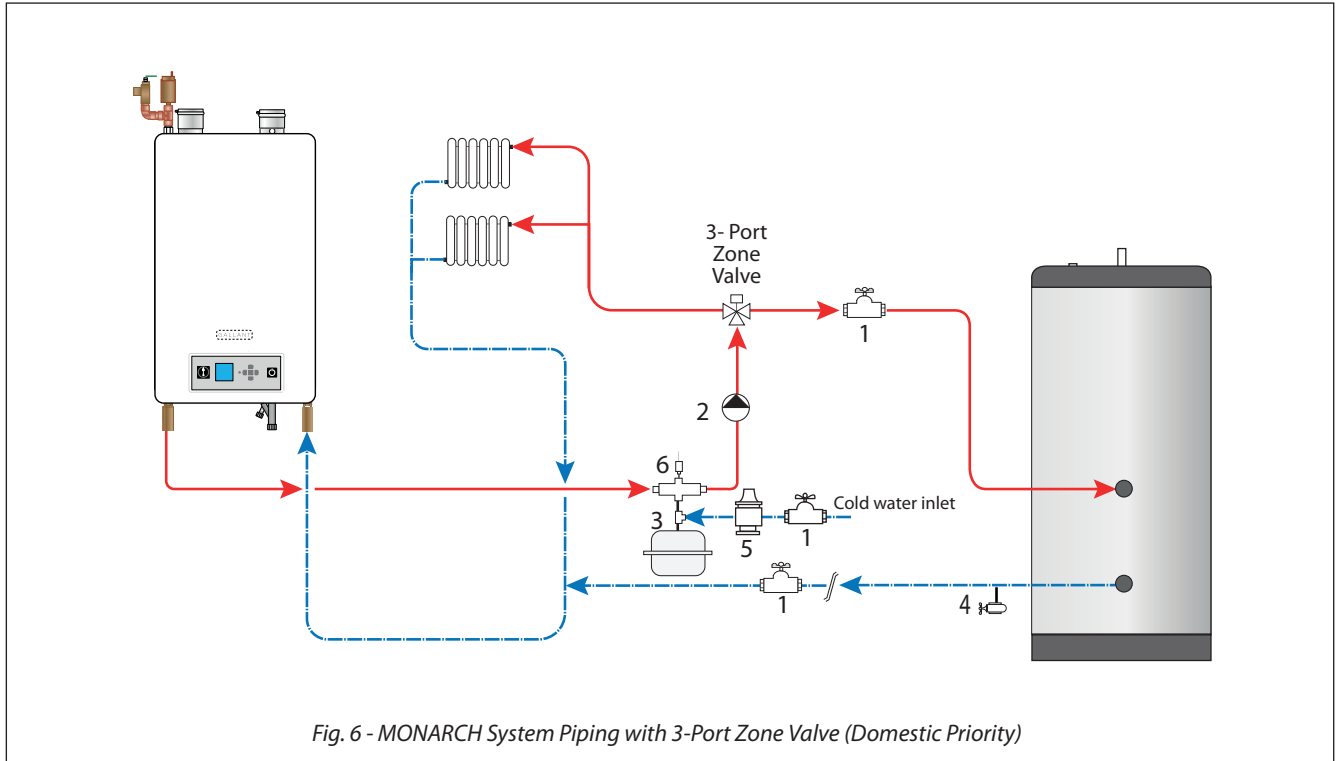

Fig. 6 - MONARCH System Piping with 3-Port Zone Valve (Domestic Priority)
- For Boiler water piping, refer to *Fig. 6 on page 11 thru Fig. 9 on page 12*.